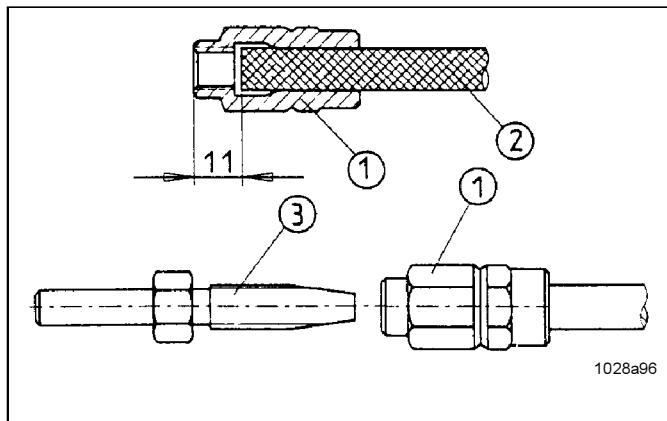

Fig. 7 Preassembly of threaded sleeves and hose studs on the high-pressure hose
- ➔ Screw threaded sleeve, item 1 Fig. 7, counterclockwise onto high-pressure plastic hose 2 until illustrated dimension of 11 mm is reached. Then screw hose stud 3 into threaded sleeve 1.